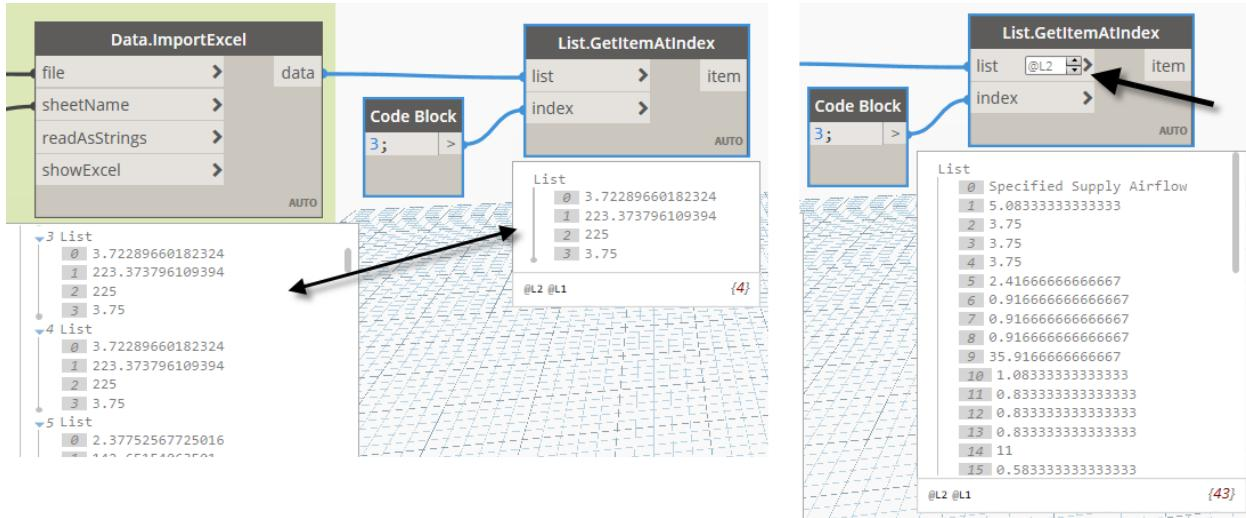

Figure 69
12. Run the graph and expand the preview bubble on the **GetItemAtIndex** node (see the left side of Figure 69).
13. Next to the list input, click the list at levels indicator and check the Use Levels checkbox. Leave it set to the default of @L2 and run the graph (this is index 3 from each L2 list) (see the right side of Figure 69).